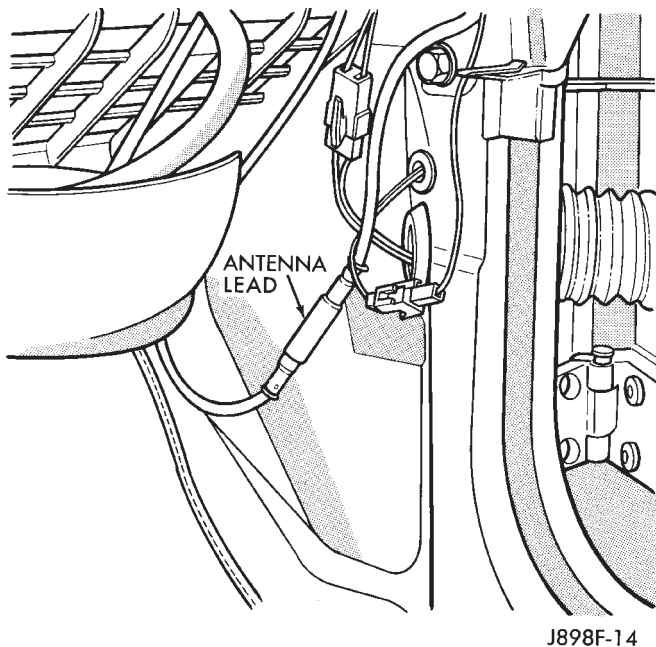

Fig. 16 Disconnect Antenna Lead - XJ
- (3) Remove the passenger side kick panel.
- (4) Disconnect the antenna lead (Fig. 16) by pulling apart while twisting the metal connectors. **DO NOT PULL ON THE COAXIAL CABLE.**
- (5) Pull the rubber grommet out of the kick panel.